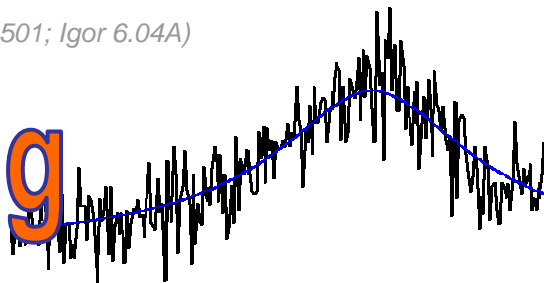

Figure 4.10: Excessive twisting of cable causes damage.
Figure 4.10: Aligning SLD starting with spot on substrate via CCD camera: A) using low fiber light illumination, locate SLD spot on substrate; B) move LDX and LDY thumbwheels until SLD spot is on end of cantilever with maximized 'Sum' voltage; C) increased fiber light illumination reduces refracted light seen in CCD image.
- 1) Break down the head cable over time (see Figure 4.10).